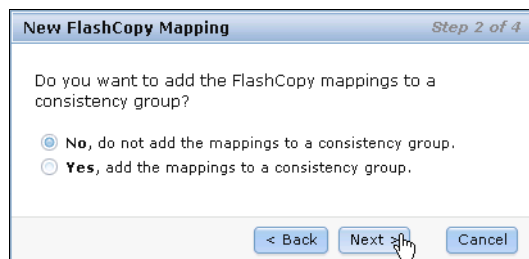

Figure 9-19 Add FlashCopy mapping to a consistency group
- In the next step, you could add your FlashCopy mapping to a consistency group (Figure 9-19). If the consistency group is not ready, the FlashCopy mapping can be added to the consistency group afterward. Click **Next** to continue.